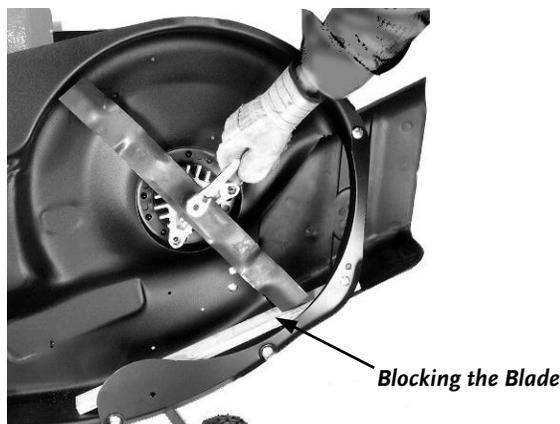

Figure 22
1. Block the Blade with a piece of wood between the Blade and the Mower Deck on the chute side of the Deck (*Figure 22*).